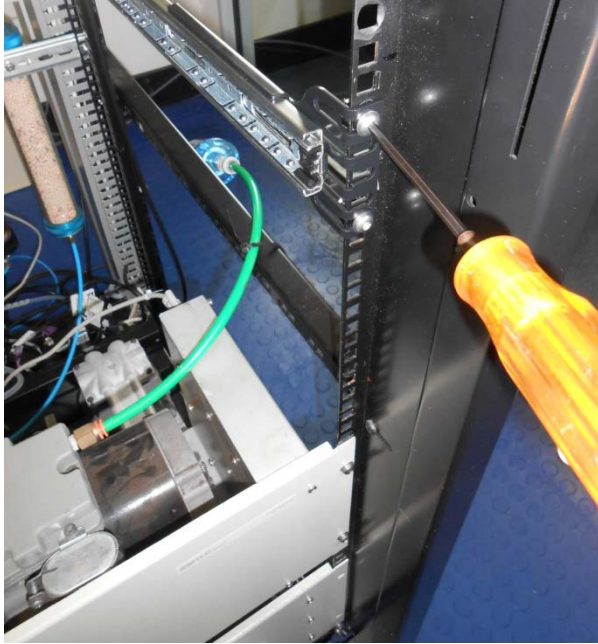

Figure 75 – Attach Slides to Front of Rack
7. Install the two assembled outer slide rails onto the left and right side of the rack securely with M6 bolts; washer and locknuts/cage nuts (refer to Figure 75).